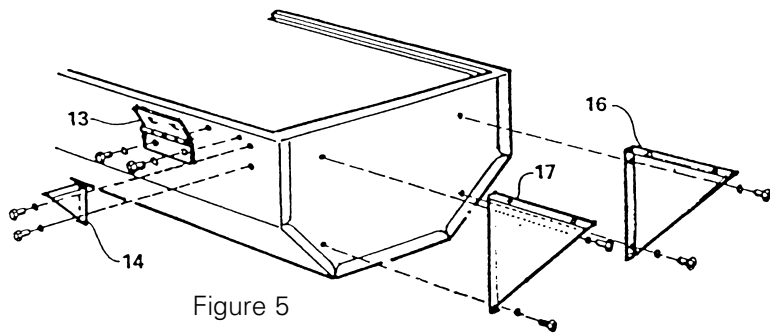

Figure 5
5. Refer to Figure 5. Select the following parts for assembly: